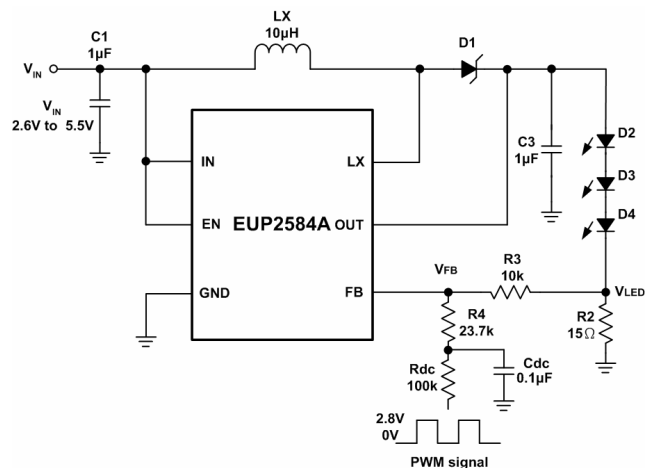
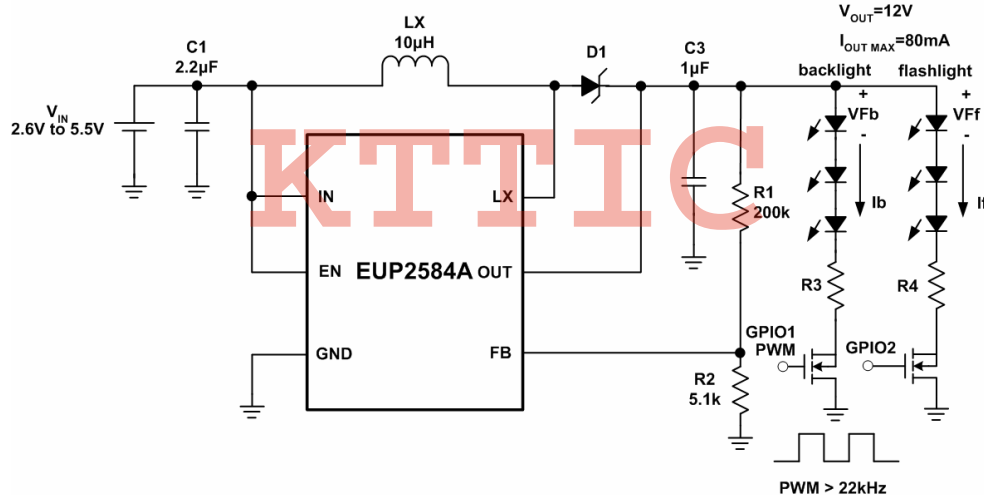

Figure 5. Filtered PWM Signal for LED Dimming Control
Figure 6. Constant Output Voltage for Backlight and Flashlight
Another common application is using a filtered PWM signal as an adjustable DC voltage for LED dimming control. A filtered PWM signal acts as the DC voltage to regulate the output current. The recommended application circuit is shown in the Figure 6. In this circuit, the output ripple depends on the frequency of PWM signal. For smaller output voltage ripple (<100mV), the recommended frequency of 2.8V PWM signal should be above 2kHz. To fix the frequency of PWM signal and change the duty cycle of PWM signal can get different output current. According to the application circuit of Figure 5, output current is from 20.5mA to 5.5mA by adjusting the PWM duty cycle from 10% to 90%.
Figure 6 is an application of EUP2584A for backlight of main panel and flashlight. Setting the divider-resistors (R1 & R2) is to get a constant output voltage that depends on the forward voltage and the numbers of series-LEDs. There are three kinds of mode controlled by the switches - backlight mode /flashlight mode /backlight + flashlight mode. It can turn on backlight or flashlight at one time or both at the same time. Applying different duty cycle of PWM signal above 22kHz to backlight's switch can also control the brightness of main panel's backlight. The following formula (2)(3) can determine R3 and R4.